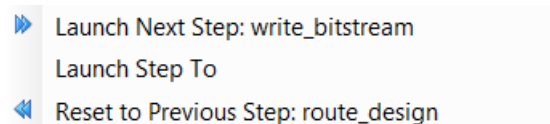

Figure 2-13: Popup Menu in Design Runs Window
1. Right-click a run in the **Design Runs** window and select **Launch Next Step: <Step>** or **Launch Step To** from the popup menu shown in Figure 2-13.